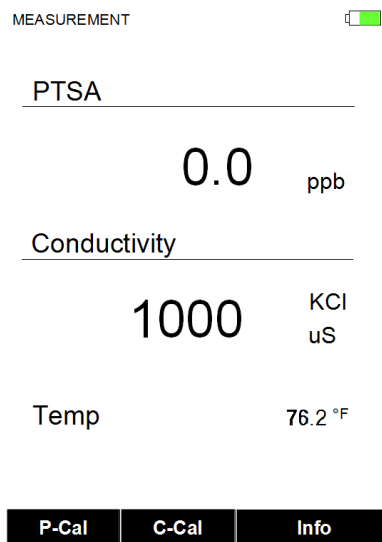

Figure 9
- 3) A screen similar to Figure 9 will appear. The unit is reading both conductivity and PTSA if the light shield is in the closed position. For conductivity measurement or calibration, the light shield is not required to be closed. The conductivity reading should be close but not necessarily the same as the value of the standard added.